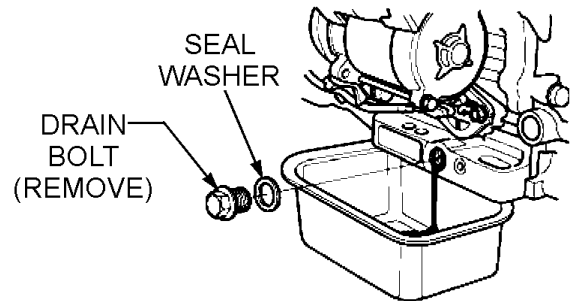

Figure 32. Draining Engine Oil
1. Drain the engine oil when the oil is warm as shown in (Figure 32).